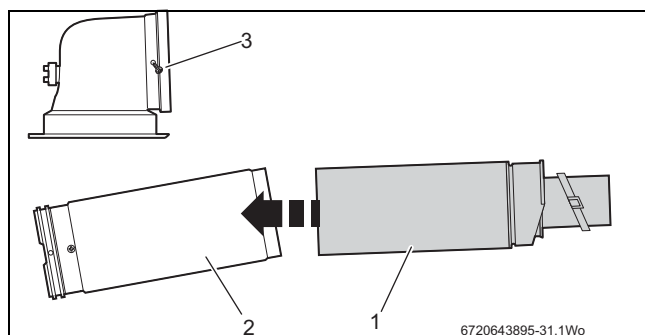

Fig. 30 Reducing the standard terminal
- ▶ If the required length is less than 350mm the standard telescopic flue can be modified, refer to fig. 30.